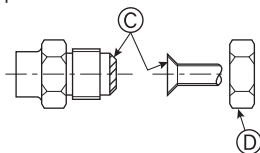

Fig. 4-8
Ⓐ (Fig. 4-8)
Ⓑ (Fig. 4-8)
4.4. Connecting pipes (Fig. 4-8)